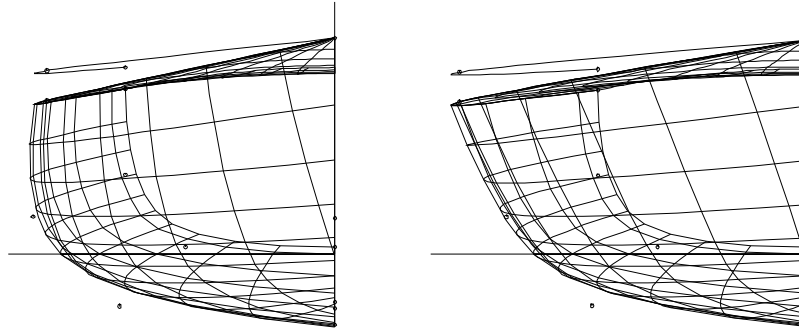

Fig. 20
- 16 Drag 'P21' outboard a foot or so**(Fig. 20, right). [This should match our distribution model DEMODK3.MS2.]